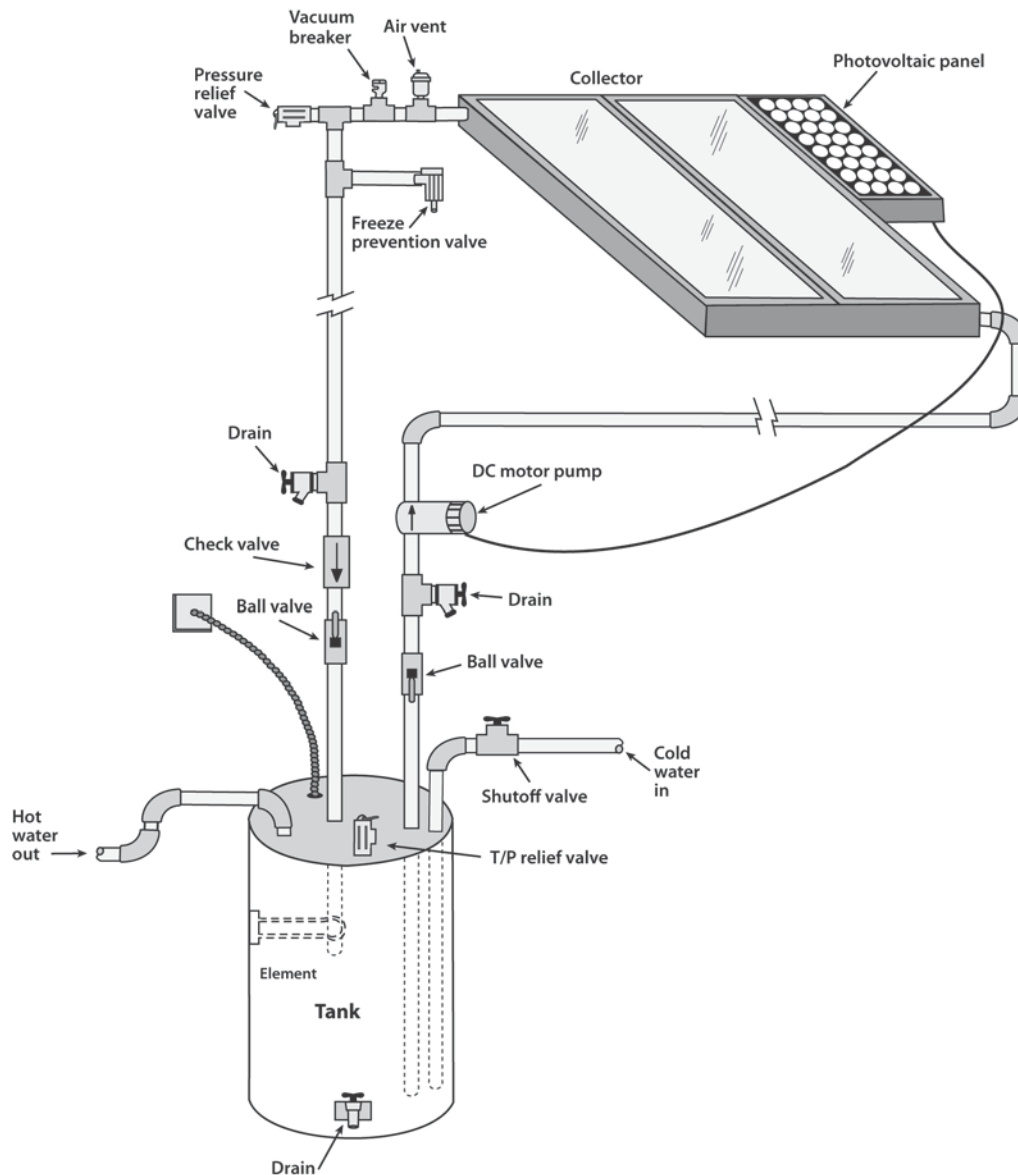

Figure 4 Active direct system with photovoltaic control
Whereas the differential controlled active system uses a differential controller and sensors to regulate pump operation and heat collection, the photovoltaic (PV) controlled system (Figure 4) uses a PV module to perform these functions. Photovoltaics modules are semiconductor materials that convert sunlight directly to direct current (DC) electricity. In a photovoltaic controlled-system, a photovoltaic module generates power for a DC pump that circulates water through the collector and back into the storage tank. In a direct-coupled system, the module and pump are sized and properly matched to ensure that the pump will begin operating when sufficient solar energy for heating water is available and will stop operating when solar energy diminishes.